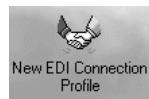

Figure 4-26. New EDI Connection Profile Button
- Click the **New EDI Connection Profile** button (Figure 4-26) in the listbar.